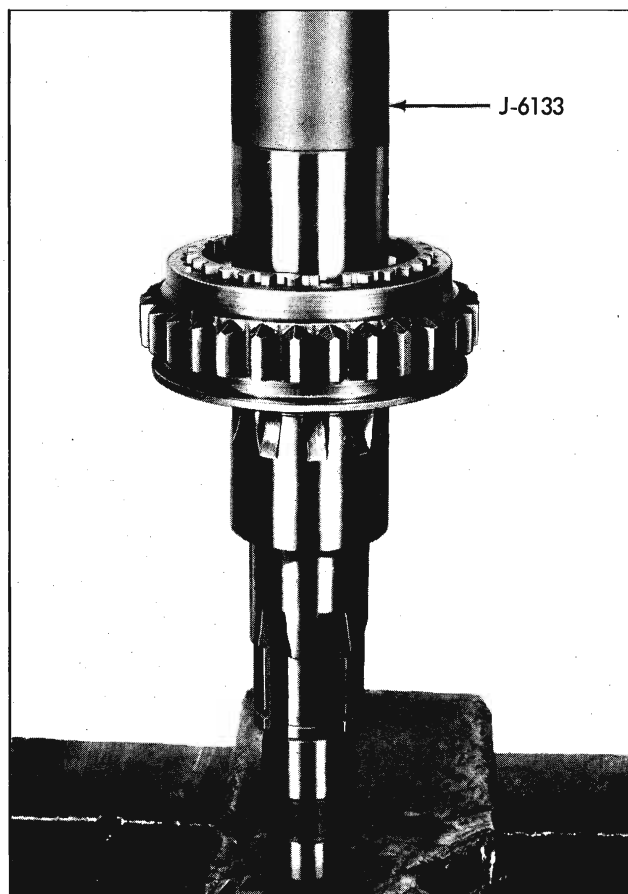

Fig. 7B-21 Installing 1-2 Synchronizer Hub
3. Press assembled rear bearing retainer and rear bearing onto mainshaft using J-6133 (Fig. 7B-23) and secure with selective fit snap ring. With the proper snap ring installed (three thicknesses available), maximum end play between rear face of rear bearing and snap ring will be .005".